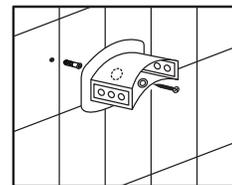

Figure B1
POSITION/APPLY 4 ADHESIVE 3M TAPE (29) AND 6 DABS OF THE PROVIDED GLUE (28) (FIGURE B1), EVENLY DISTRIBUTING ON THE FLAT SURFACE OF THE MOUNT. PLACE THE MOUNT AGAINST THE WALL AND APPLY FIRM PRESSURE FOR 30 SECONDS. ALLOW MINIMUM 24 HOURS TO CURE BEFORE INSTALLING THE UNIT.
11. Insert nylon anchors (16) into the holes. [Figure B]
12. Secure mounts (13) to wall with mounting screws (14) and metal washers (15). **DO NOT OVERTIGHTEN.** [Figure B]
13. Remove tape backing on escutcheon base (6), slide over nipple (1) and attach to wall. [Figure C]
- NOTE:** Optional thin escutcheon (8) is for installations where the ABS escutcheon (6,7) interferes with desired mounting height of Bonzai. For best look with thin escutcheon (8), nipple should not extend more than ¾" from wall surface.
14. Secure chrome 90° w/ cone washer (3) to nipple (2). **DO NOT OVERTIGHTEN.** [Figure C]
- NOTE:** Cone washer is already installed on chrome 90° (3).
16. Determine length of supply line (9). Supply line must install completely over barbed portion of 90° connector (3). To shorten, remove Bonzai from wall, cut supply line with sharp utility knife and re-insert Bonzai into wall mounts.
17. Secure Bonzai to wall mounts (13) with screws (17). Choose holes that set Bonzai at desired distance from the wall. [Figure D]